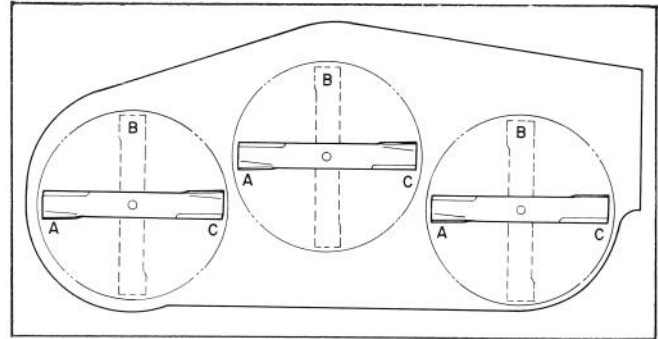
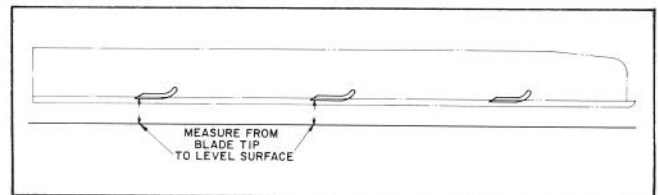
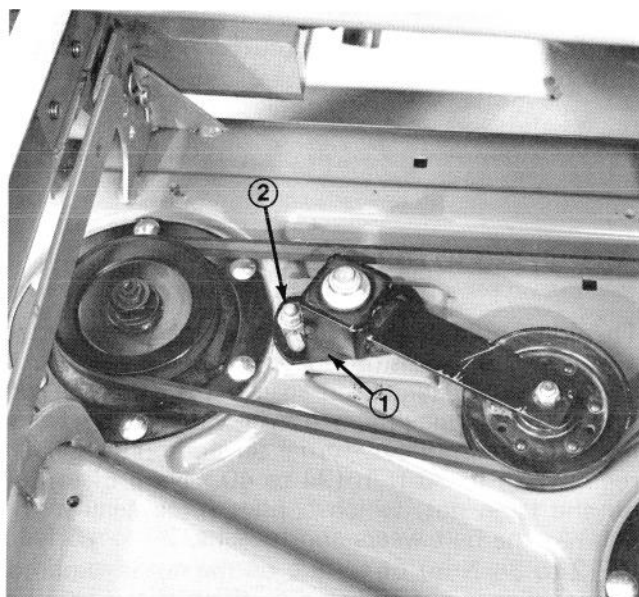

Figure 21
Figure 22
Figure 26
5. Position all three blades in the "A" position (Fig. 21) and measure from level surface to the bottom of the tip end of each blade (Fig. 22).
6. Note measurement attained at "A", rotate blades to "B" position (Fig. 21), measure distance of all blades to level surface and note dimensions (Fig. 22).
7. Rotate blades to "C" position, measure and note distance measured (Fig. 21, 22).
3. Loosen two nuts securing idler plate in place (Fig. 21). Using a socket and torque wrench, tighten the idler adjusting nut (Fig. 26) until proper torque value is achieved.
4. Hold the torque against the belt and tighten the two nuts so idler plate is held securely in place (Fig. 26). Release the idler adjusting nut and install cover with capscrews and lockwashers.
3. Loosen two nuts securing idler plate in place (Fig. 26) and remove old belt from pulleys.
3. Loosen two nuts securing idler plate in place (Fig. 26). Belt tension will be released when nuts are loosened.